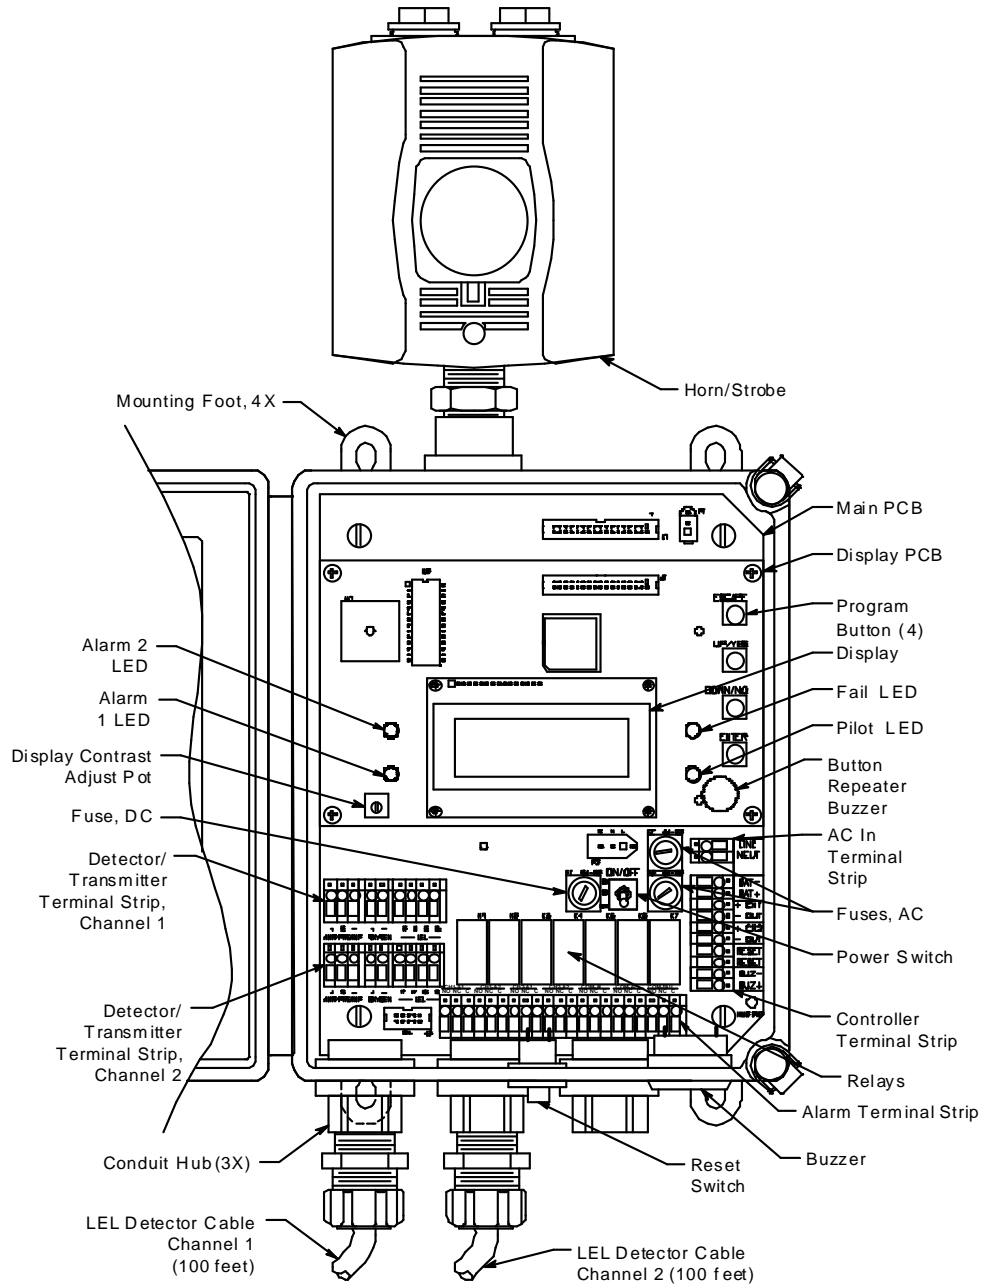

Figure 1. Beacon 200 Component Location
This section describes the internal components of the Beacon 200. See Figure 1 on page 4 for a view of the internal components.
- **Detector/Transmitter Terminal Strips.** Two detector/transmitter terminal strips are located near the bottom left corner of the main circuit board (see Figure 1). These two 9-point terminal strips facilitate wiring connections to the detectors. Only one detector head at a time may be wired per channel. The top terminal strip is for channel 1 and the bottom terminal strip is for channel 2. The LEL detectors are factory wired to these terminal strips.
- **Alarm Terminal Strip.** The alarm terminal strip is located along the bottom edge of the main circuit board (see Figure 1). This 21-point terminal strips facilitates wiring connections to external alarm devices (horn, strobe, etc.). Terminals are provided for individual channels as well as common alarm relay contacts. The horn/strobe is factory wired to this terminal strip.
- **Controller Terminal Strip.** The 10-point controller terminal strip is near the lower right edge of the main circuit board (see Figure 1). The controller terminal strip facilitates various internal and external wiring connections. Table 3 lists the function of each terminal.
- **AC In Terminal Strip.** The AC In terminal strip is a 2-point terminal strip located above the controller terminal strip (see Figure 1). It facilitates wiring from the AC power source. Table 4 lists the function of each terminal.
- **Channel relays.** The four channel relays are above the alarm terminal strip (see Figure 1). These relays are dedicated to specific channels and alarm levels.
- **Common relays.** The three common relays, alarm 1, alarm 2, and fail, are to the left of the controller terminal strip (see Figure 1). These relays are common for both channels.
The power switch is located above the relays and to the left of the DC fuses (see Figure 1). The power switch turns the incoming AC power source on and off at the Beacon 200. When the switch is up, the power switch is on.